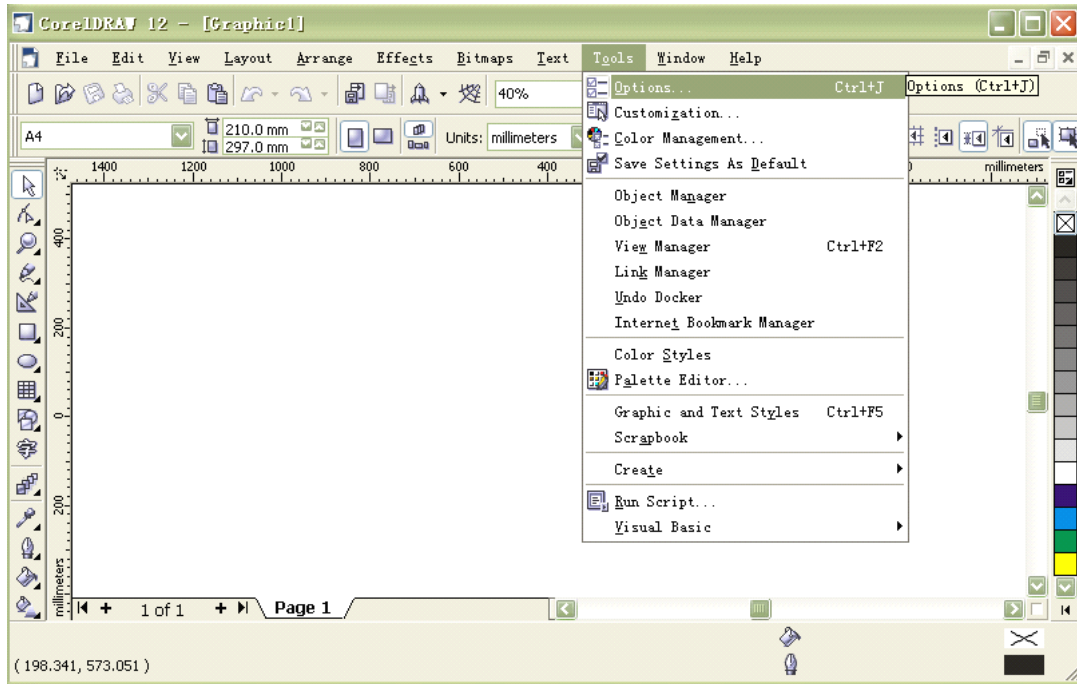
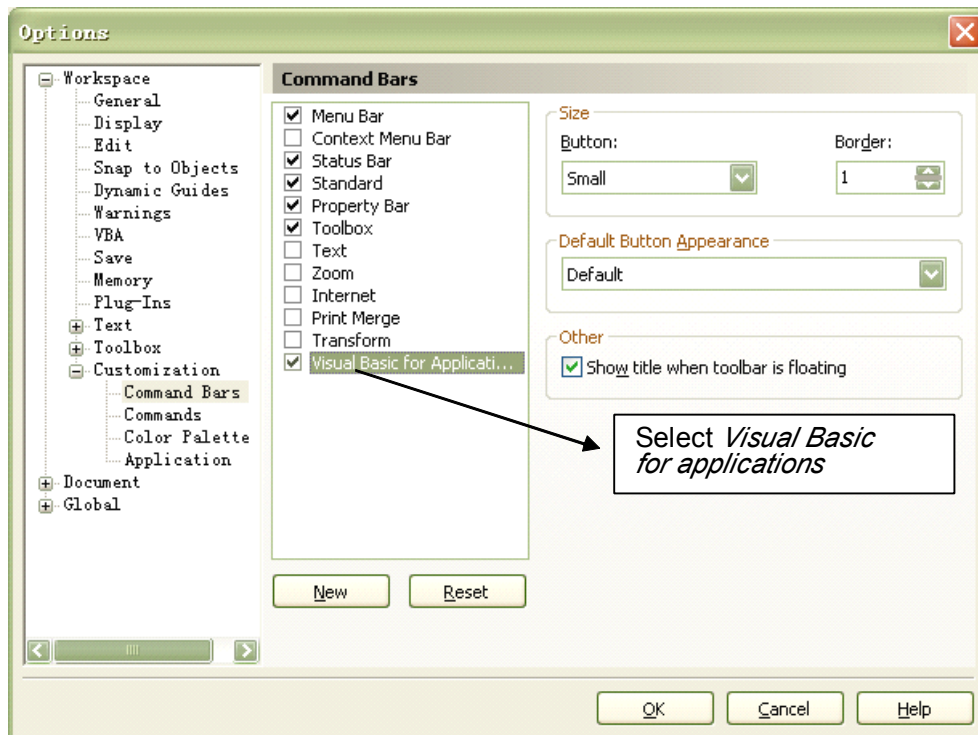

Figure 1-1
Figure 1-2
- (1) As shown in figure 1-1, enter the main menu of CorelDraw, choose CorelDraw menu, tools->options, a menu as shown in figure 1-2 will pop up:
- (2)As shown in figure 1-2, select *Visual Basic for applications*, and then click on *Ok* button. Now the main menu of CorelDraw is shown in figure 1-3: